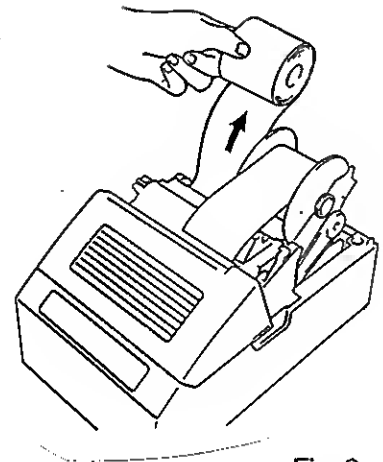

Fig. 2
- 3) Remove the remaining paper roll from the rear side of the printer. (Fig. 2)